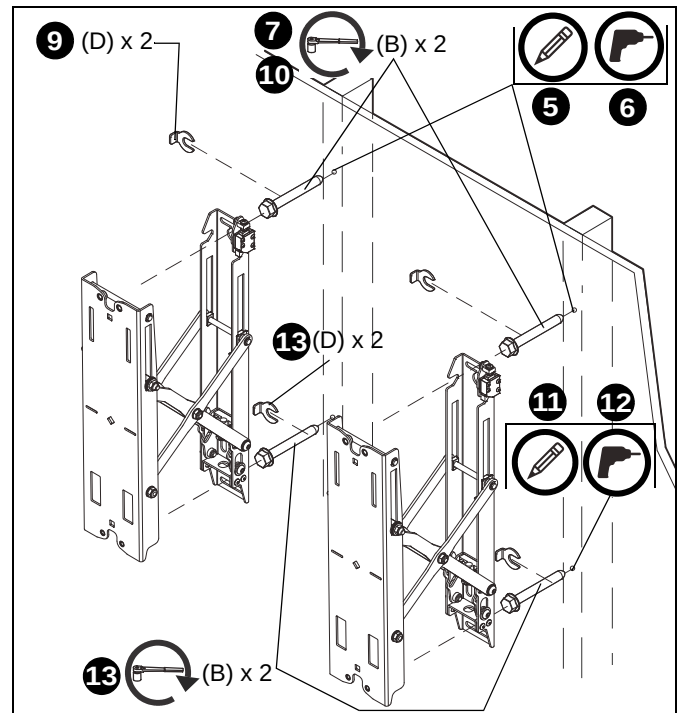

Figure 2
5. Using a level, mark the wall on each stud to attach the accessory through the upper mounting slots. (See Figure 2)
7. Partially install two 5/16 x 2-1/2" flanged lag bolts (B) into pilot holes but do not tighten to wall.
8. Hang both Fusion pullouts (A), aligning upper mounting slots over lag bolts and adjust side-to-side for proper location.
9. Place one slotted washer (D) over each flanged lag bolt. (See Figure 2)
10. Tighten lag bolts to secure accessory (A) to wall at upper mounting slots.
11. Mark the attachment points for the lower mounting slots, making sure the attachment points are located on the studs. (See Figure 2)
12. Drill 7/32" (5.5mm) pilot holes at markings for lower mounting holes. (See Figure 2)
13. Use two 5/16 x 2-1/2" flanged lag bolts (B) and two 5/16" slotted washers (D) to attach both pullouts (A) to the wall through the lower mounting holes. (See Figure 2)